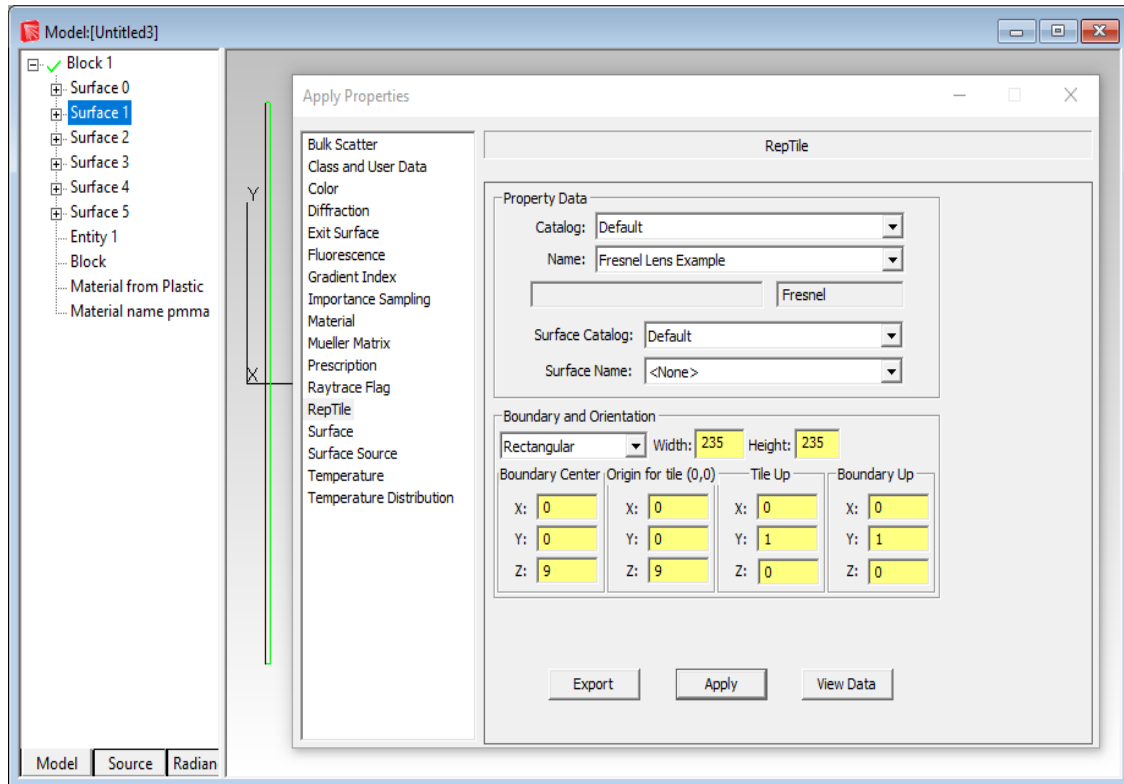

FIGURE 9.10 - Insert a block and apply the Fresnel Lens Example RepTile property to it.
9. Now select the $-z$ surface of the block and apply the RepTile surface property using the *RepTile* tab in the *Apply Properties* dialog box. Fill in the values shown in Figure 9.10.